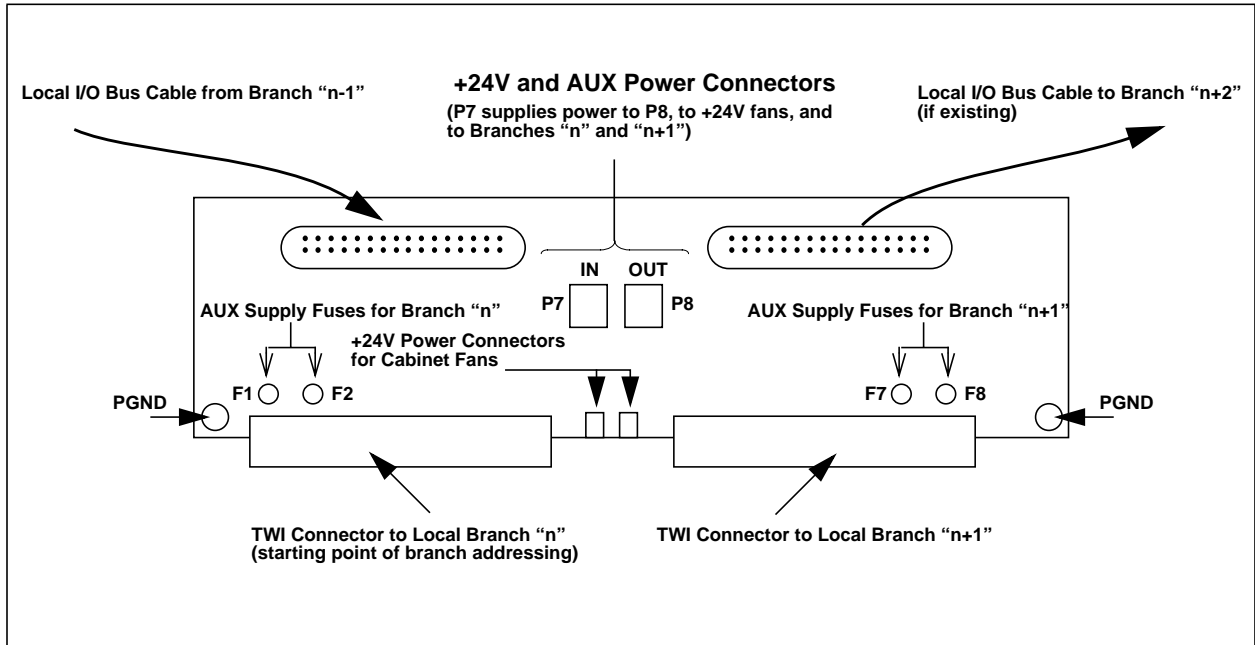

Figure 27-12. I/O Transition Panel (ROP)
- I/O Transition Panel (ROP - 4D33922) - Connects to two branches of I/O, providing a point to bring in +24V redundant power, auxiliary power, and the local I/O communications bus (refer to Figure 27-12).
- I/O Transition Panel (ROP - 4D33922) - Connects to two branches of I/O, providing a point to bring in +24V redundant power, auxiliary supplies, and the local I/O communications bus (refer to Figure 27-12).